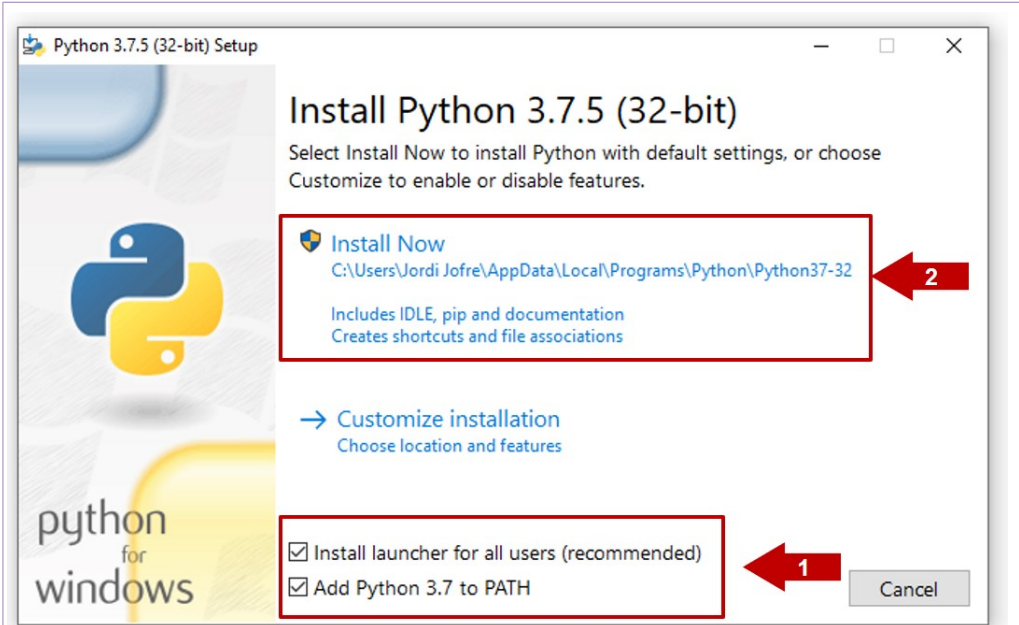

Figure 61. Install Python 3.5.x 32 bit for Windows
2. Double click on the downloaded installer file. Select the *"Install launcher for all users"* and *"Add Python 3.7 to Path"* options and click *Install Now* as indicated in Figure 61:
|          |                                                                  |    | Fig. 61. | Install Python 3.5.x 32 bit for Windows                                          | 40 |